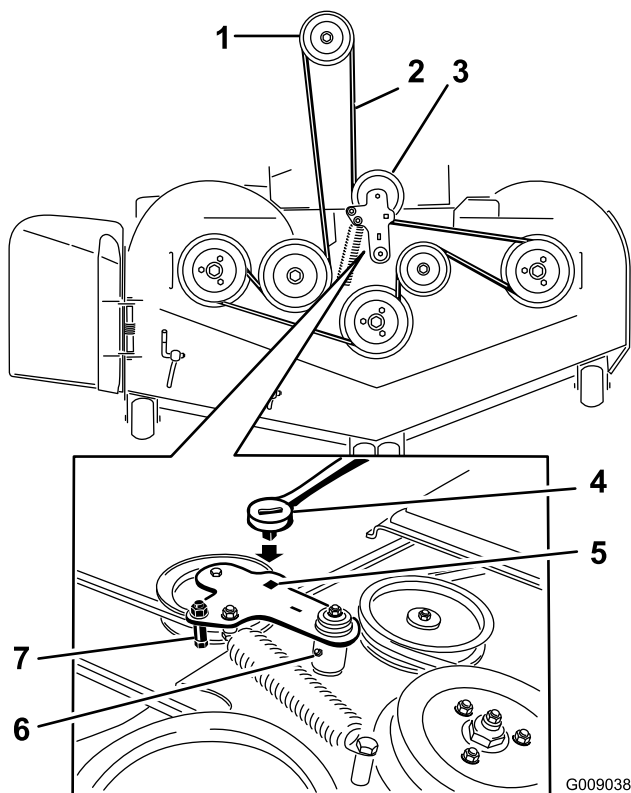

Figure 78
5. Use a ratchet in the square hole in the idler arm to remove tension on the idler spring (Figure 78).
7. Remove the belt guide on the spring-loaded idler arm (Figure 78).
9. Install the new belt around the mower pulleys and the clutch pulley under the engine (Figure 78).
10. Install the belt guide on the idler arm (Figure 78).
11. Using the ratchet in the square hole, install the idler spring (Figure 78).